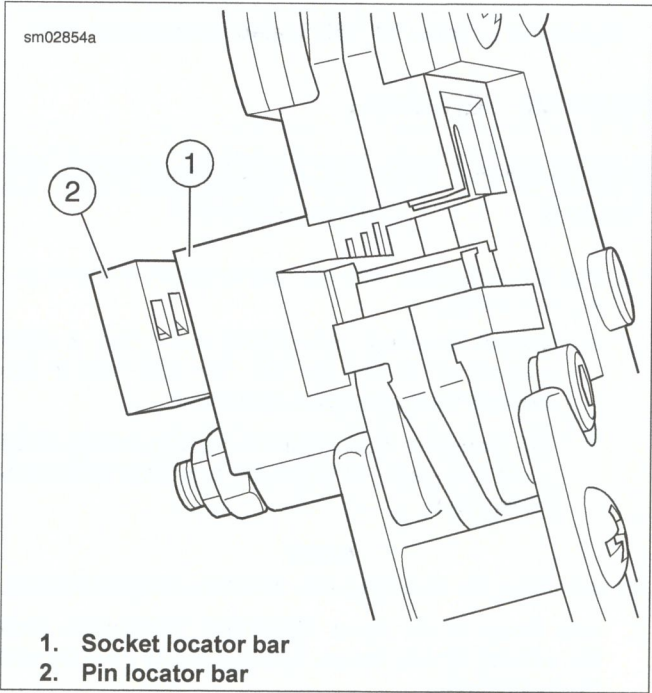

Figure A-18. Terminal Locator Bars
- a. **Socket terminal:** See Figure A-18. A socket terminal stops against the back face of the socket locator bar (1).